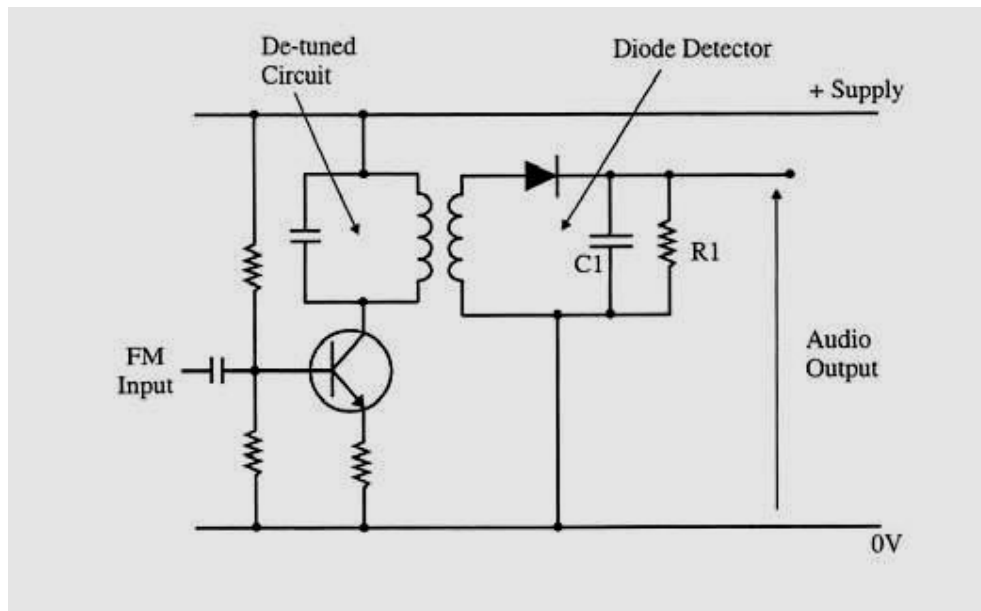

Figure 13: Detuned Resonant Circuit Detector
Figure 13 below shows the circuit diagram of the Detuned Resonant Circuit Detector. If we break it down, the operation becomes very clear. The FM input is applied to the base of the transistor and in the collector there is the detuned resonant circuit that we have met earlier. In reality, it also includes the loading effect caused by the other winding which acts as a transformer secondary.
*We can get an indication of the relationship between the input voltage and the carrier frequency by measuring the value of the change in the DC voltage applied to the base of the transistor in the Reactance Modulator circuit and recording the corresponding value of the output frequency at tp34. It may be helpful at this time to have another look at Figure 13 or refer back to your investigation of the Varactor Modulator.*